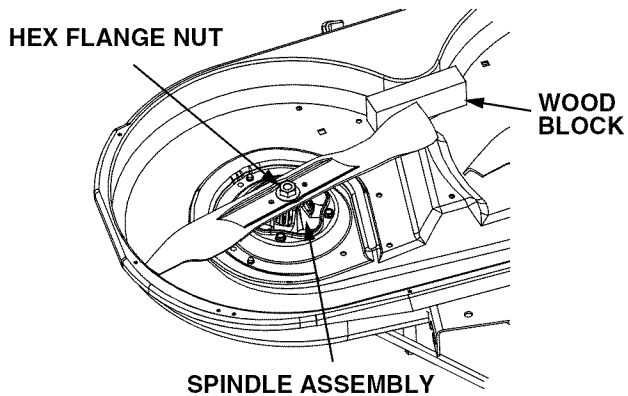

Figure 41
- Use a 15/16 inch wrench to hold the hex nut on top of the spindle assembly when loosening the hex nut securing the blade. A block of wood may be placed between the deck housing and the cutting edge of the blade to help in breaking loose the hex nut securing the blade. See Figure 41.